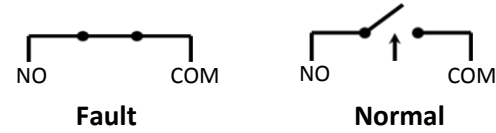

Figure 4. Alarm Relay for NO (Normally Open) Type
The Alarm is one electrical relay that can be wired into an alarm circuit and is triggered in the event of port link loss (optical or electrical) or loss of either one power source. From the common pin (COM), the relay can be connected as Normally Open (NO) or Normally Closed (NC). When an alarm occurs NO-to-COM circuit closes and the COM-to-NC circuit opens. See Figure 4 and 5 for normal and fault illustration in each alarm relay type. Please note that the alarm relay contact can only support 1A current at 24VDC. Do not apply voltage and current that exceed these specifications.